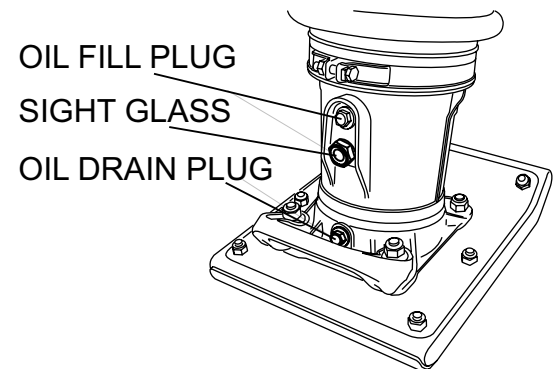

Figure 13. Oil Drain Plug
- Remove the oil drain plug on foot housing (Figure 13) and drain the oil. Refill with approximately 0.69 qt. (0.65 liter) of 10W-30 SE, SF or higher grade motor oil. Oil should be midway in sight glass. Break in oil should be changed after first 50 hours.